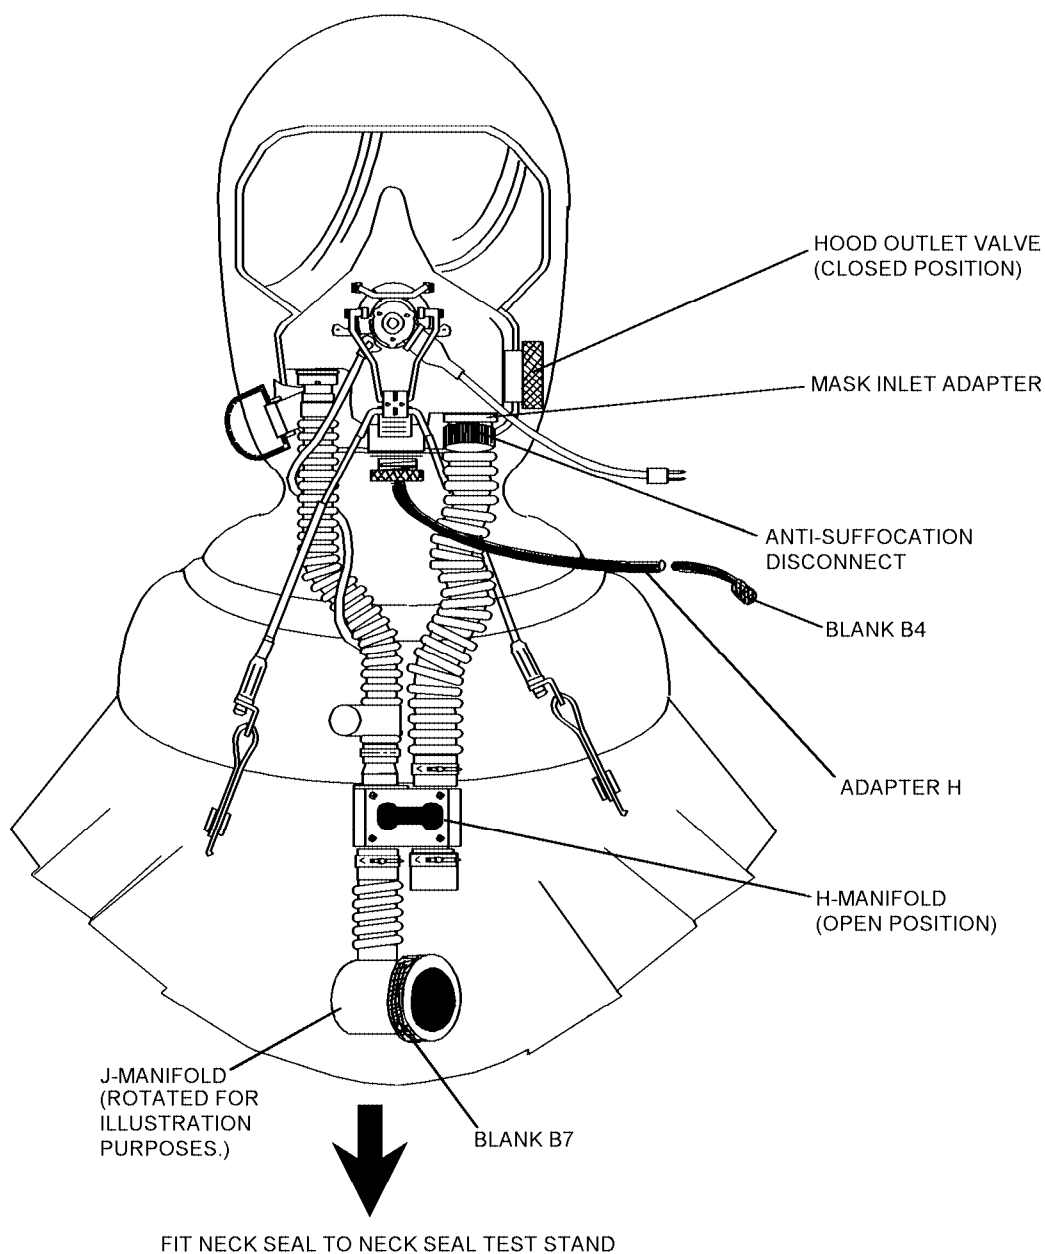

Figure 4-87. (V)1 Variant - Non-Oxygen Mask Assembly - Overall Leakage Test
2. Fit blank B7 to J-manifold (figure 4-87).
6. Fit blank B4 to free end of adapter H (figure 4-87).